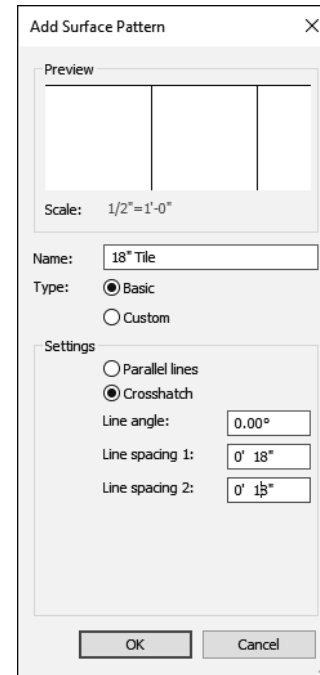

FIGURE 4-4.14 Add surface pattern
54. Create a new pattern named **18" Tile**; adjust the settings to match Figure 4-4.14.